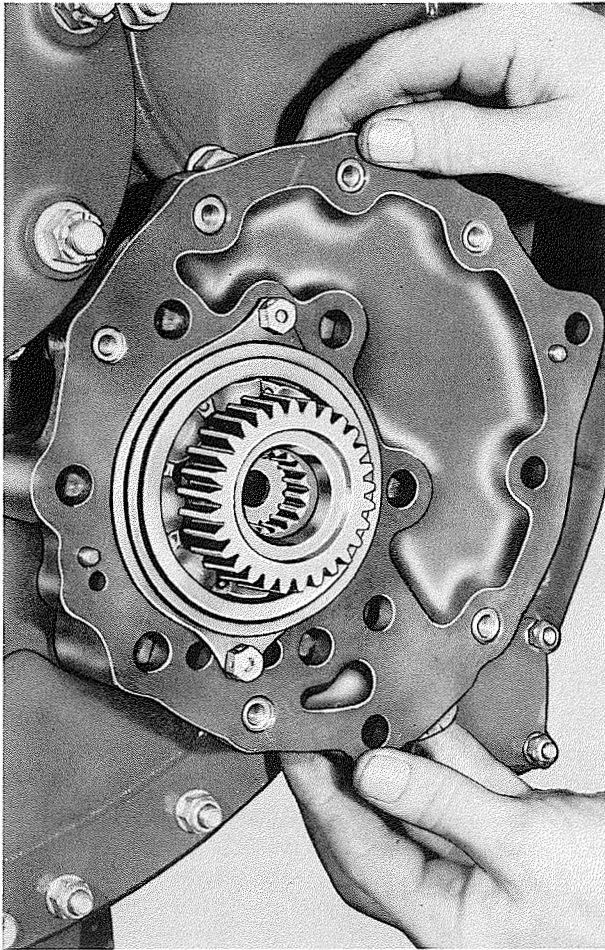

Figure 7-110. Removing Accessory Drive Gear Box Front Housing
e. Tap the housing lightly with a fiber mallet to break the seal and remove it from the generator mounting pad. See figure 7-110.